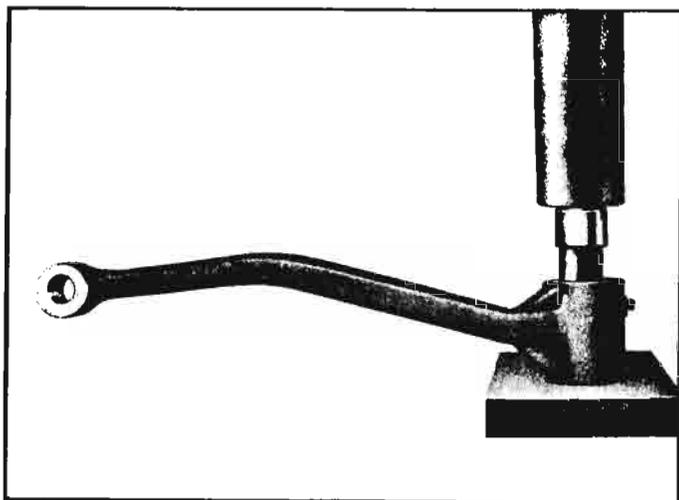
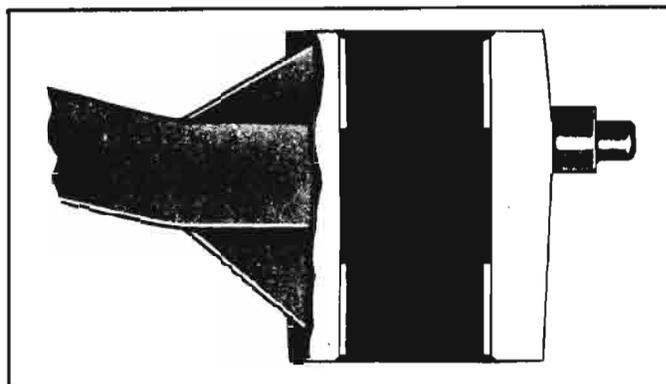

Fig. 5-37—Installing Bushings with J-8524-2
Fig. 5-38—Final Position of Pedal Bushing
3. Lightly coat new bushings with lubriplate and press into pivot hole as far as possible with Tool J-8524-2 (Fig. 5-37), then seat bushings to depth shown in Figure 5-38 using socket or other similar